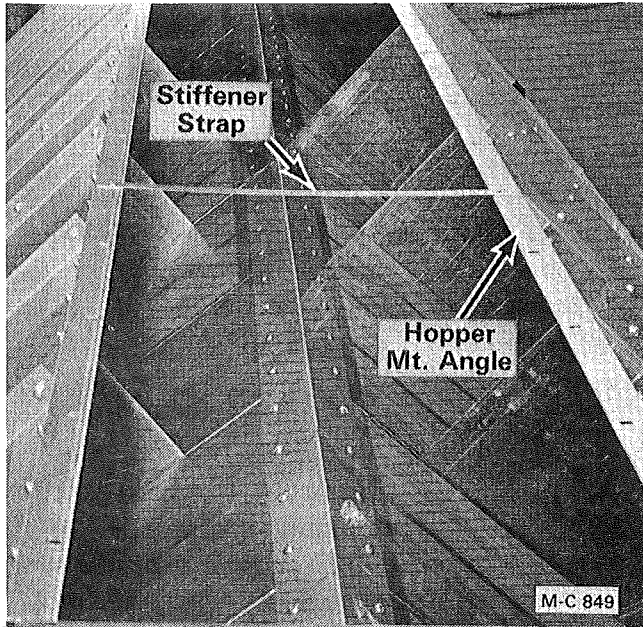

Figure 5
1. Place a stiffener strap #1292947 28" (71cm) long across the center of each set of hopper mount angles bolted to the top of the outer screens. A CF620/720 dryer requires (2) straps and a CF820 dryer (3). See Figure 5.